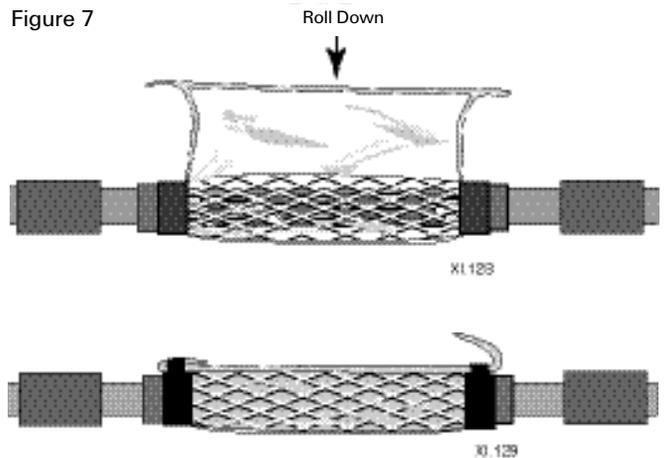

Figure 7
12. Pull out the top corners of the wrapper and roll the wrapper down onto the top of the encapsulated splice bundle. Twist one end of the wrapper tightly against the sealant collar and secure it in place with vinyl tape, leaving 1/2" of the sealant collar exposed. Fold the excess wrapper back over the tape and secure it in place with an additional wrap of vinyl tape. (Figure 7)